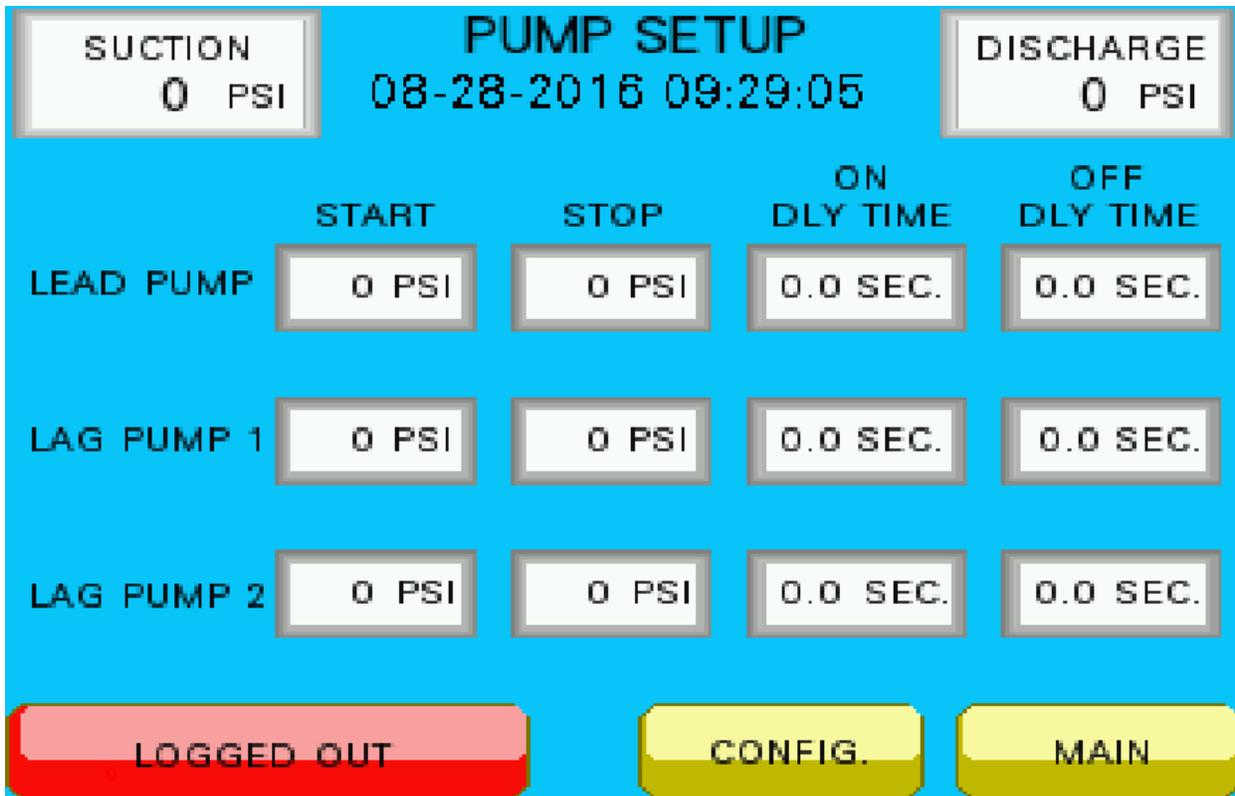

Figure 1.1
2. Press the PUMP SETUP button on the bottom of the main screen. You will now see the pump setup screen like figure 1.1 below. (The screen will display the number of pumps that your system is configured for. The examples in this manual is for the the three pump configuration.)